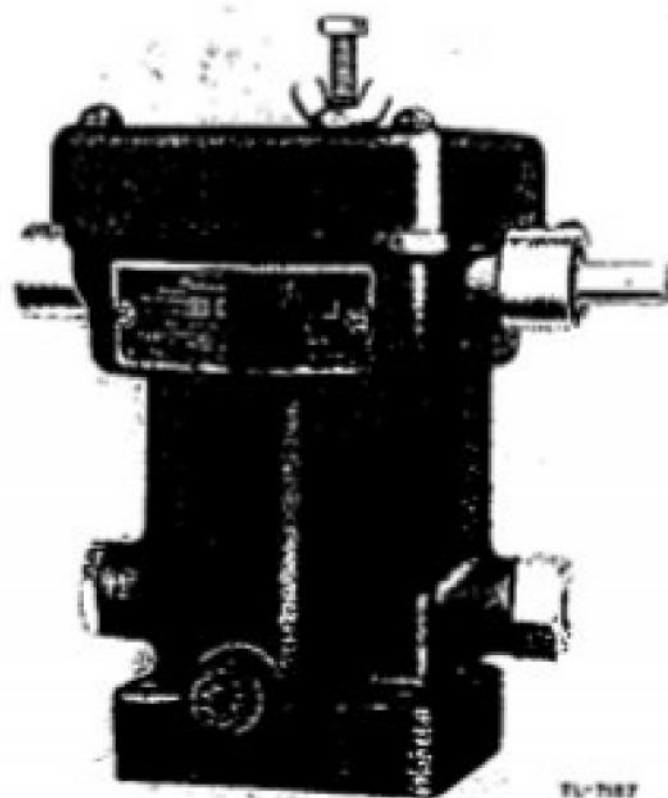

Figure 15. Hydraulically operated engine governor.
a. GENERAL. The SG governor (fig. 15) is a hydraulic type; it uses engine lubricating oil, under pressure, as an energy medium. The governor acts, through oil pressure, to increase the fuel supply. It